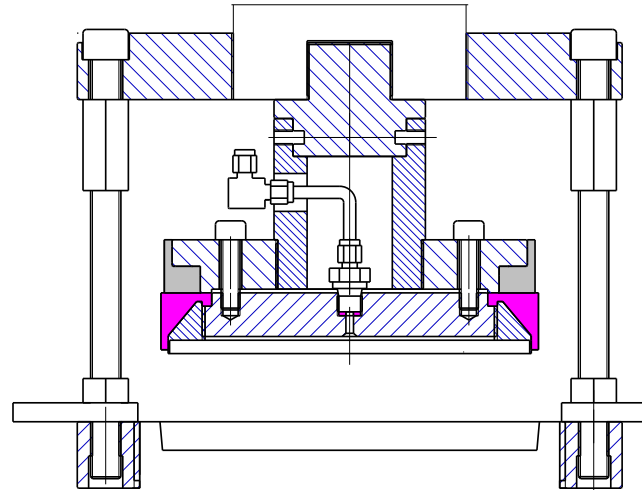

Fig. 2 Upper piston cross section
The upper and bottom parts of the column are closed by stainless steel pistons with UHMWPE made seals and stainless steel/polypropylene (PP) support. Each piston unit consist of five parts (see Fig. 2, 3, 4, 5):